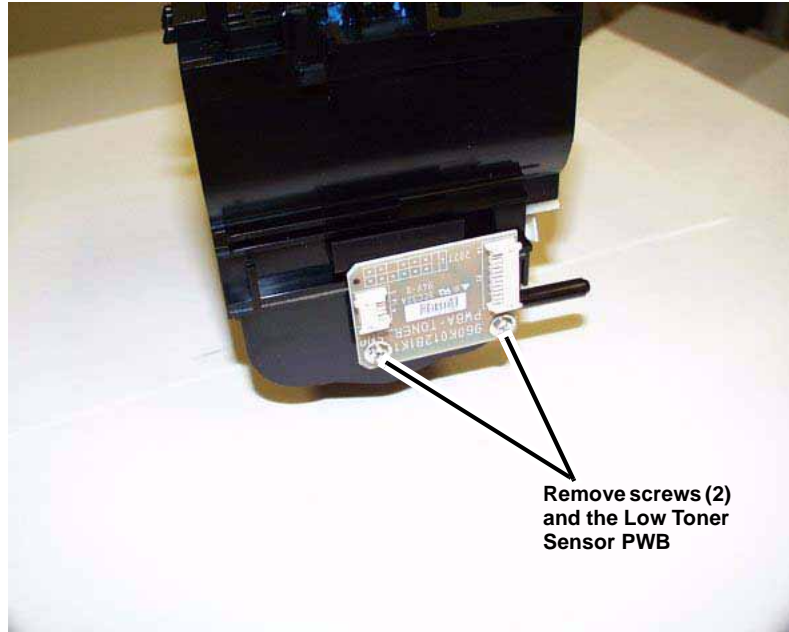

Figure 1 Removing the Low Toner Sensor PWB
4. Remove the Low Toner Sensor PWB (Figure 1).